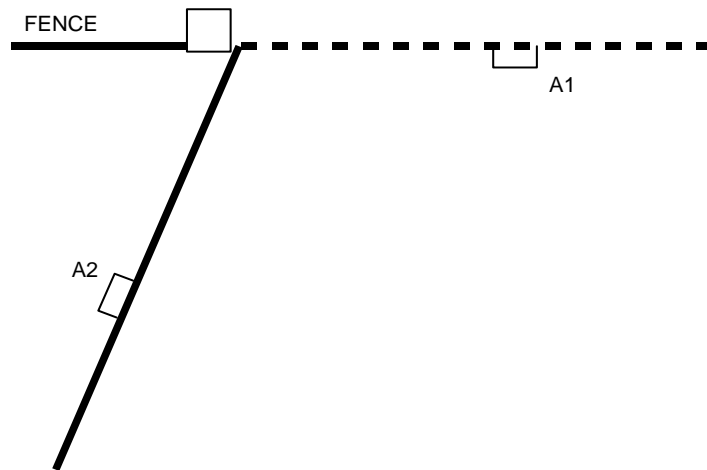

Figure 22
3. Swing the gate to the desired open position. This can be less than 90°, 90°, or greater than 90° (max 120°). With the gate in the desired position, mark a second point on the ground directly under the center of the gate bracket. Label this point A2 (Figure 22).